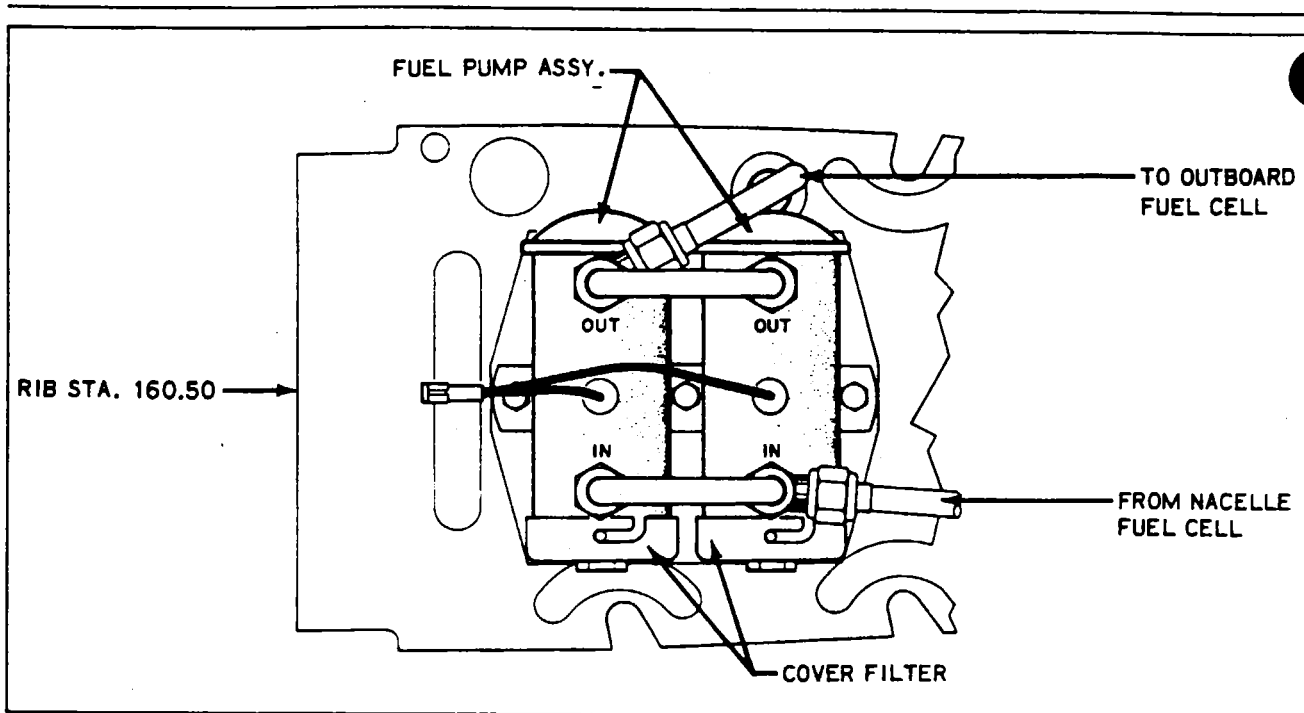

Figure 9-15. Installation Of Transfer Pumps
- a. Connect the two fuel pumps according to Figure 9-15.